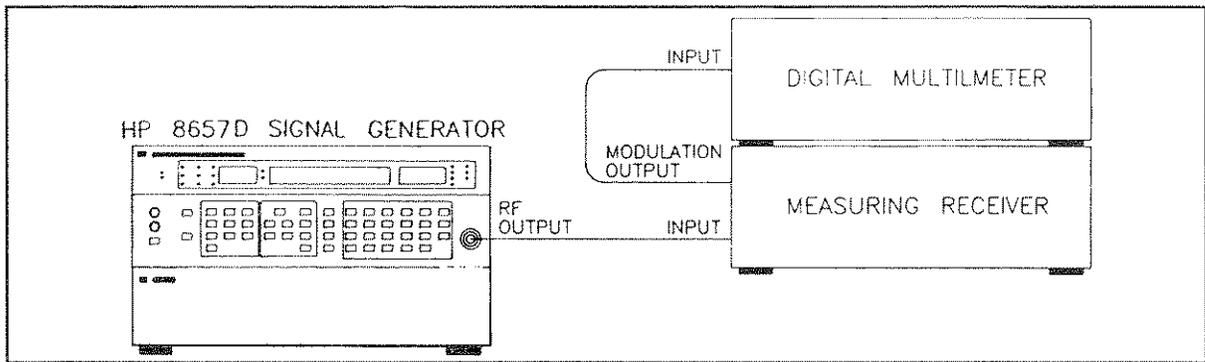

Figure 4-3. Residual AM Test Setup
- 8. Connect the RF OUTPUT of the HP 8657D to the input of the measuring receiver and the modulation output of the measuring receiver to the input of the digital multimeter as shown in Figure 4-3.